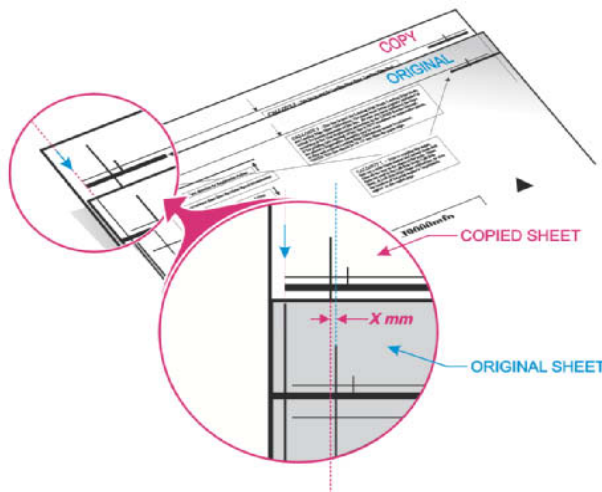

Figure 198. Left side front calibration (3 of 4)
- 9 On the calibration target, compare the line on the left side of the original to the line on the left side of the copy. See figure 198.